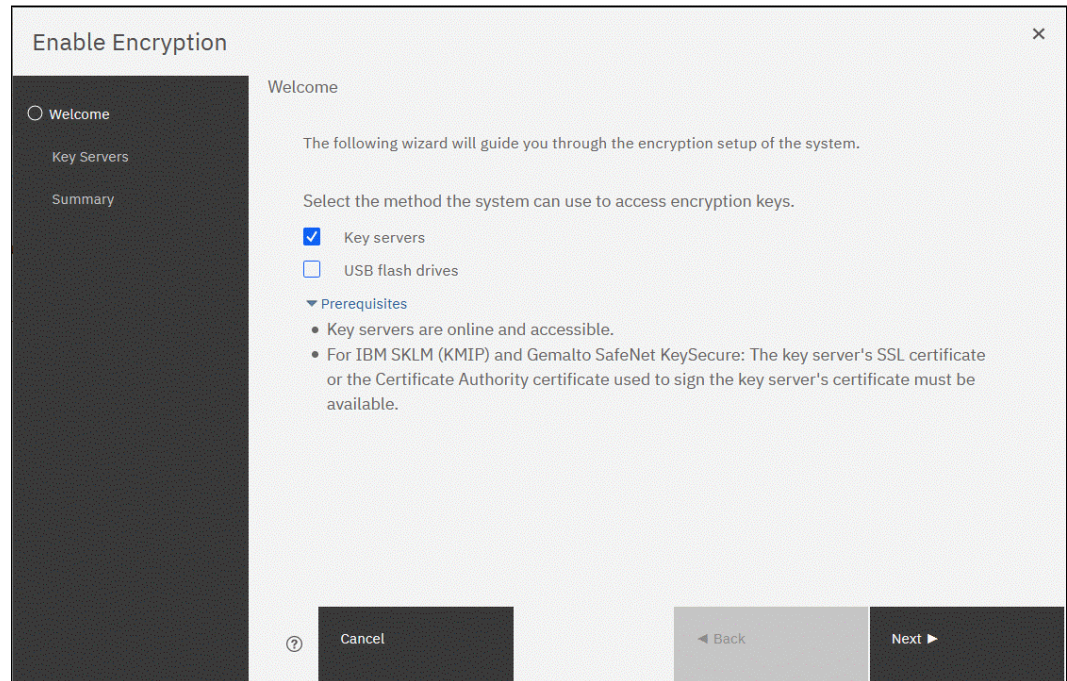

Figure 12-37 Selecting Key servers as the only provider in the Enable Encryption wizard
2. In the Enable Encryption wizard Welcome tab, select **Key servers** and click **Next**, as shown in Figure 12-37.